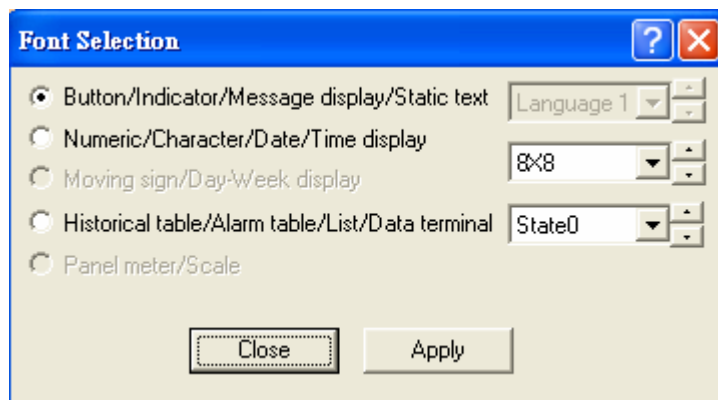

Figure 43. Specify the Font of the Text to Objects
- ◆ [Font] : Specify the font of the text to different objects. While select [Selection] button, the dialog box will be appeared as Figure 43. User can specify the font of text to different types of objects. Remember to press [Apply] button for set up.